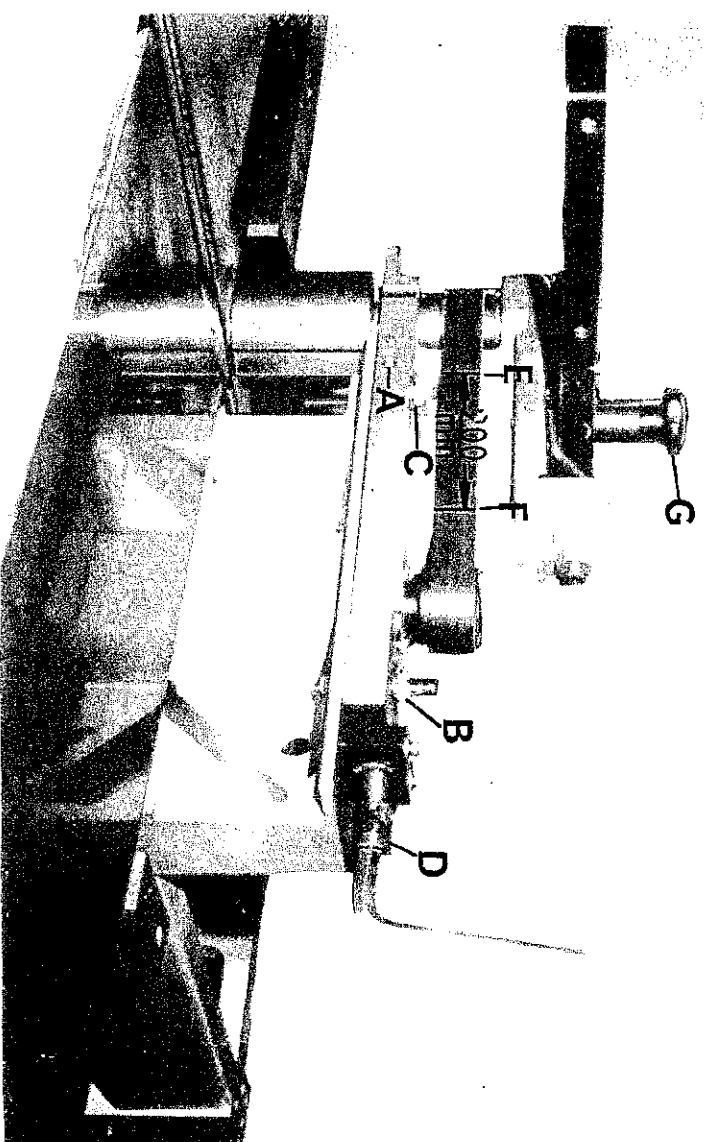

FIG. 32
- f) Loosen grubscREW "A" FIG.32 on planer side only, 1 full turn.
- g) Loosen 1 - M12 nut "B", 2 - M10 hexagon head bolts "C" FIG.32 (1 either side of housing) and using allen key, adjust caphead screw "D" to tension belt.
- h) Correct tension will have been achieved when 200mm can be measured between points "E" and "F" FIG.32 on belt.
**IMPORTANT:** DO NOT REMOVE LOCKING HANDWHEEL "G" FIG.32 WHEN FEED UNIT IS REMOVED.
- i) Loosen grubscREW "A" FIG.32 on planer side only, 1 full turn.
- j) Loosen 1 - M12 nut "B", 2 - M10 hexagon headbolts "C" FIG.32 (1 either side of housing) and using allen key "D" release tension.
- l) Tension belt by caphead screw "D" FIG.32. Correct tension will have been achieved when 200mm can be measured between points "E" and "F" FIG.32 on belt.